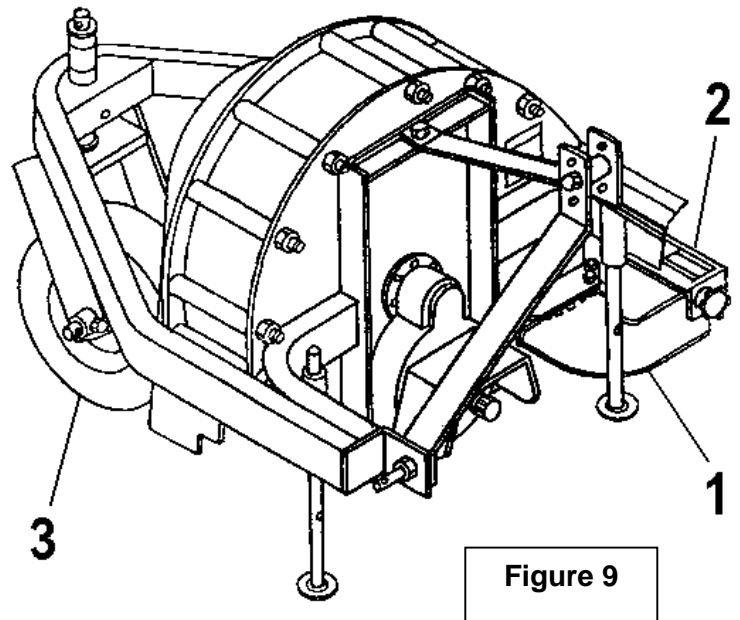

Figure 9
The nozzle (fig.9, item 1) can be rotated 230°. Set direction of the nozzle by turning the handle clockwise to rotate nozzle toward tractor or counterclockwise to rotate nozzle away from tractor.
Placing the toggle forward, lowers the deflector (fig.9, item 2). Placing the toggle to the rear raises the deflector. (If movements are different simply reverse actuator lead wires).
To adjust the deflector (fig.9, item 2), loosen knob, select angle and fasten knob securely.
Set gauge wheel (fig.9, item 3) height according to surface conditions (make sure nozzle clears the ground in all conditions). To set height, remove linch pin from wheel bracket, place the sleeve spacers either on upper or lower side of blower frame, and reinstall the linch pin.